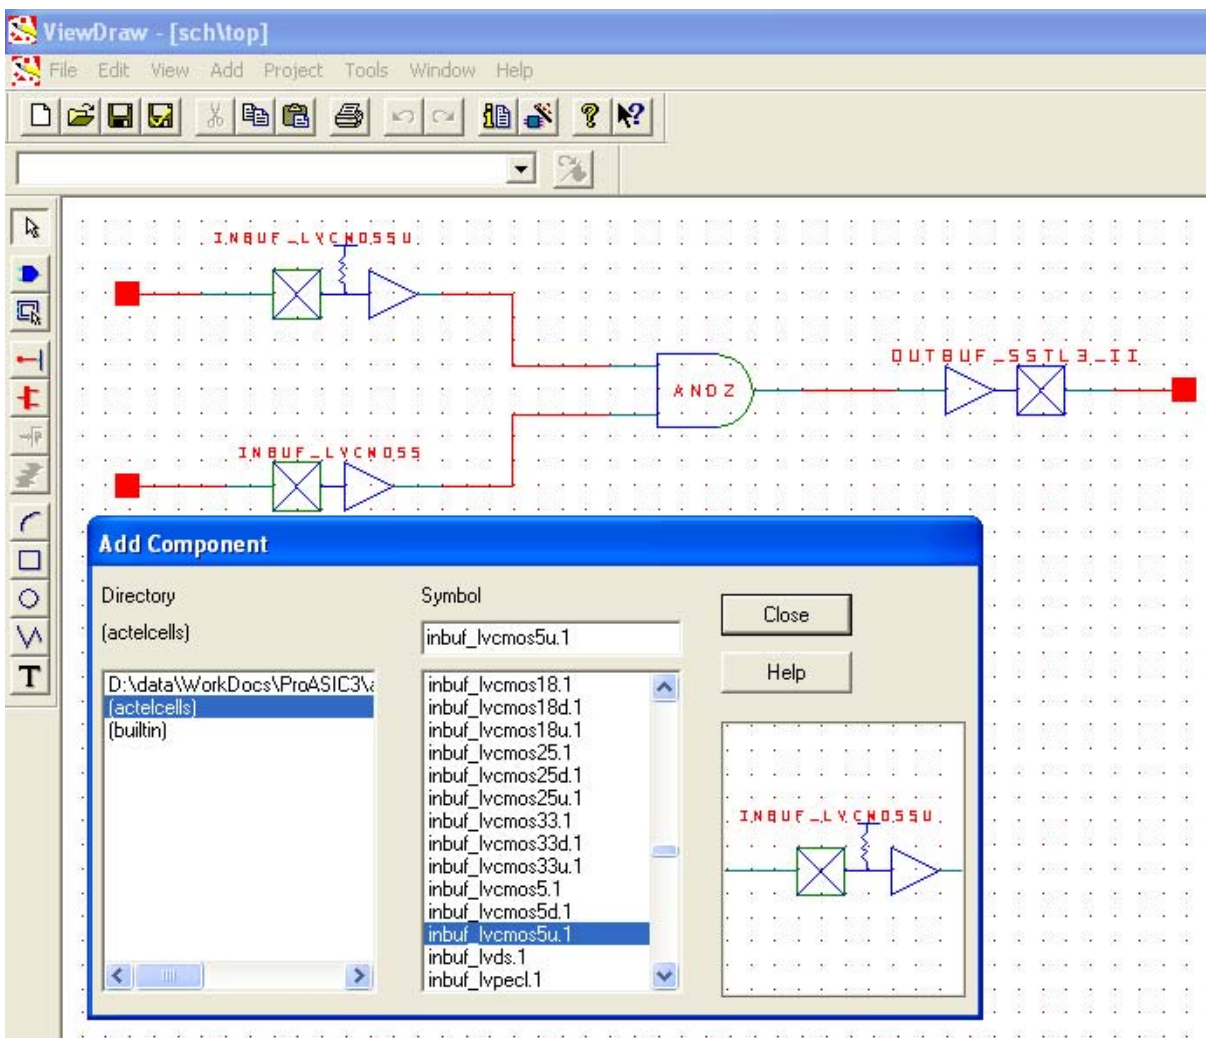

Figure 13-6 • I/O Buffer Schematic Cell Usage
- Enter a name for the macro. Click **OK**. The core will be generated and saved to the appropriate location within the project files (Figure 13-6 on page 13-7).
Libero IDE includes the ViewDraw schematic entry tool. Using ViewDraw, the user can insert any supported I/O buffer cell in the top-level schematic. Figure 13-6 shows a top-level schematic with different I/O buffer cells. When synthesized, the netlist will contain the same I/O macro.